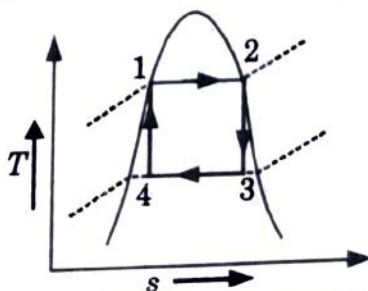

Fig. 2.1.1. Carnot vapour power cycle.
1. It is an ideal cycle having highest thermodynamic efficiency. Carnot cycle is shown in Fig. 2.1.1.